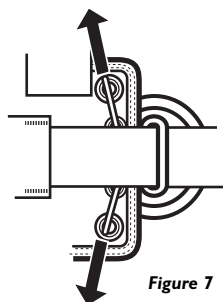

Figure 7
4. The two ends of the weight release cables must be threaded through the two small diameter grommets located on the front edge of the weight carrier. See Figure 7.